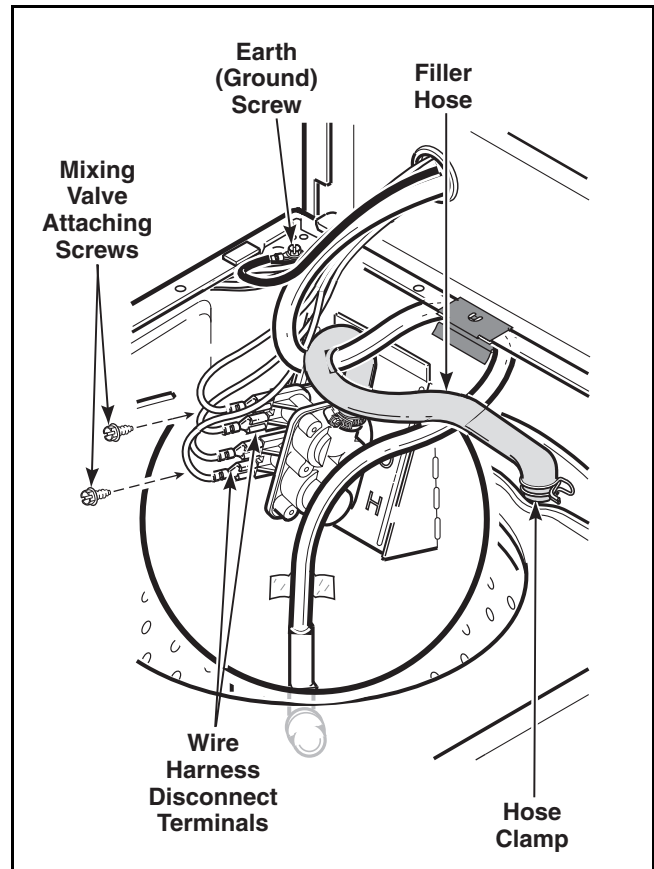

Figure 31
- Remove two screws holding mixing valve to mounting bracket at rear of washer cabinet. Refer to *Figure 31*.
- Pull mixing valve out toward front of washer far enough to permit disconnecting water inlet and fill hoses from mixing valve. Refer to *Figure 31*.
- Remove wires and quick disconnect blocks from mixing valve solenoid terminals. Refer to *Figure 31*.